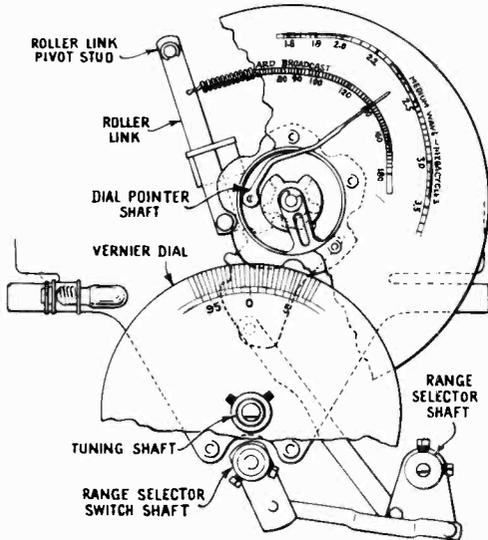

Figure 10—Selector Dial Mechanism (Model 9K3)
**Selector Dial (Model 9K3).**—Figure 10 illustrates the relation of the various parts of the dial mechanism when in its "Standard broadcast" position with the range switch likewise turned to its "Standard broadcast" position. In re-assembling the dial after repairs, see that the gears are meshed in accordance with the diagram, at